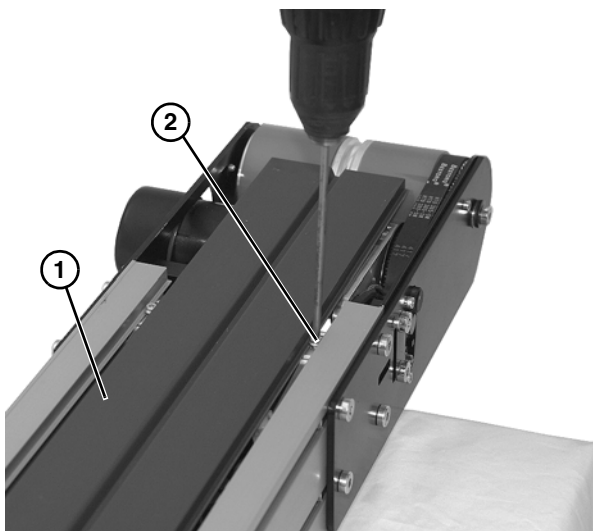

Figure 72
2. Remove wear plate (**Figure 72, item 1**) by removing plate fastening screws (**Figure 72, item 2**) on each side and end of conveyor